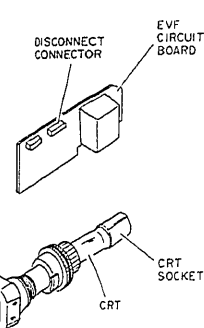

Fig. 2-155
- 2) Disconnect connector CN1D on the EVF circuit board. (See Fig. 2-155)